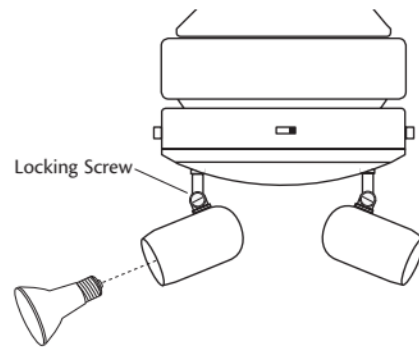

Figure 26 - Installing the light bulbs
1. Loosen the locking screws as shown in Figure 26.